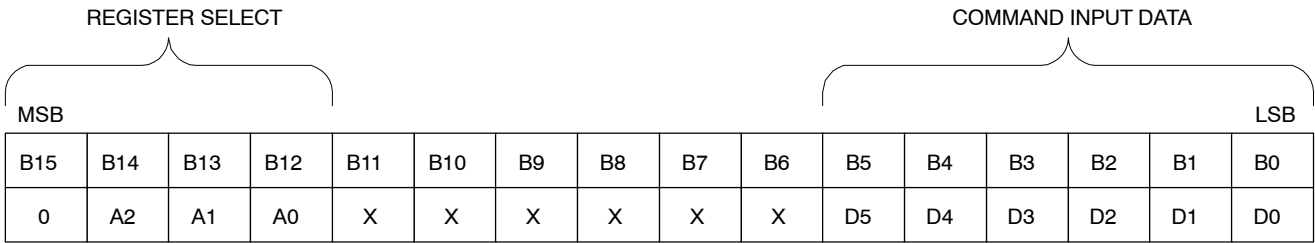

Figure 11. SPI Input Data
The 16-bit data received (SI) is decoded into a 4-bit address and a 6-bit data word (Figure 11). The upper four bits, beginning with the received MSB, are fully decoded to address one of four programmable registers and the lower six bits are decoded into data for the addressed
Fault types are encoded in a 2-bit per channel format. Fault information for all channels is simultaneously retrieved by a SPI read (Figure 11). Table 8 shows the fault-encoding scheme for channel 0. The remaining channels are identically encoded.